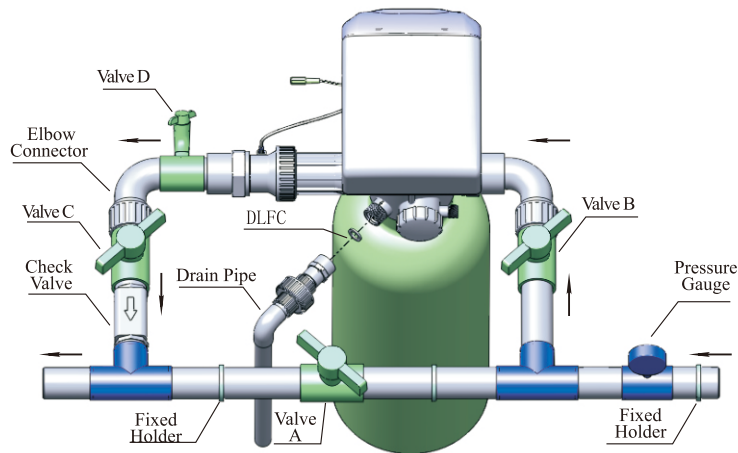

Figure1-3
③Pipeline connection
a. As Figure 1-3 shows, install a pressure gauge in water inlet.
Insert drain line flow control into drain outlet and connect the drain outlet with the animated nut, as Figure 1-3 shows.